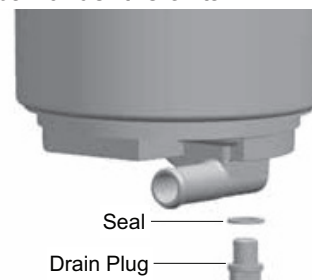

Fig. 4 Oil Tank Drain Plug and Seal
- b. Remove the drain plug and seal (Ref. Fig. 4).